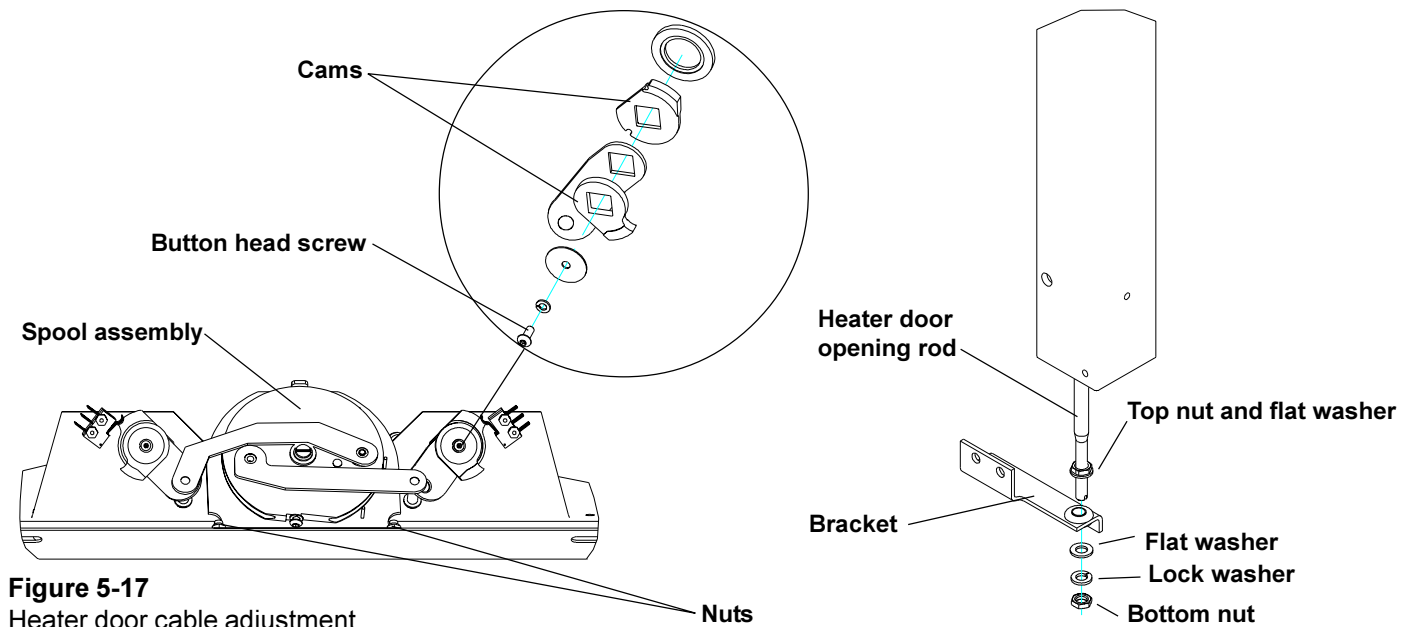

Figure 5-17
5.33 Heater Door Spool Assembly (Figure 5-17)
5.34 Heater door cable adjustment (Figure 5-17)